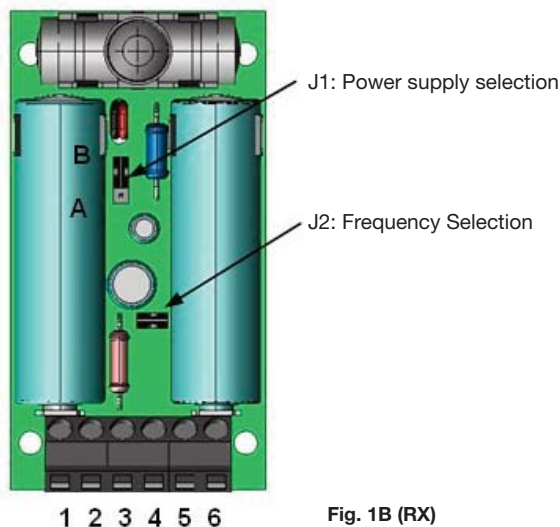

Fig. 1B (RX)
- Make connections as indicated in the previous paragraphs and select the transmitter power supply with the specific jumper (J1, Fig. 1B):
- Connect to the specific terminal strip (terminals 3 & 4, Fig. 1B) the safety edge or external safety device contact to the transmitter. **If this option is not used, jump terminals 3 and 4.**
- Connect to the specific terminal strip (terminals 5 & 6, Fig. 1B) the contacts of the 8K2 resistive edge external to the transmitter. **If this option is not used, do NOT jump terminals 5 and 6.**